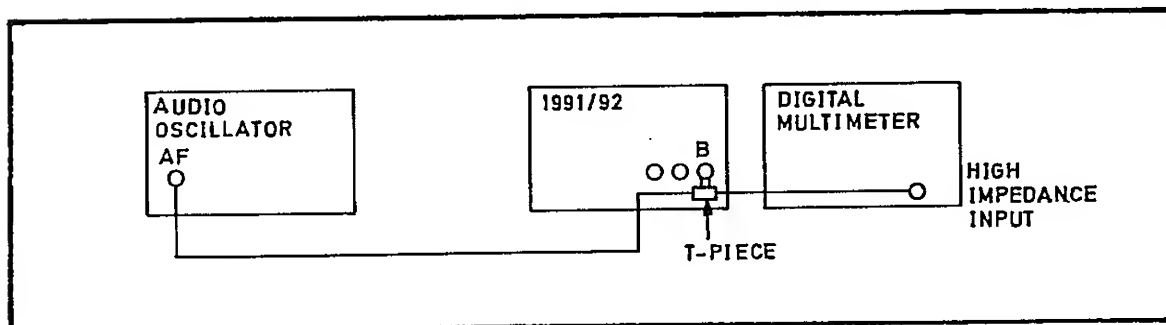

Fig 7.18 Connections for Channel B Sensitivity PVP
- (1) Connect the test equipment as shown in Fig 7.18.
- (2) Set the signal generator output to the frequencies shown in Table 7.7 in turn. Set the 1991/92 resolution to the corresponding value. Enable the 50 kHz filter.
- (3) At each frequency, determine the minimum input level to the 1991/92 which gives stable counting. Verify that this is not more than the level shown in the table.
- (4) Press 2 0 SHIFT STORE SF SHIFT SF
- (5) Disable the 50 kHz filter. Disconnect the test equipment.